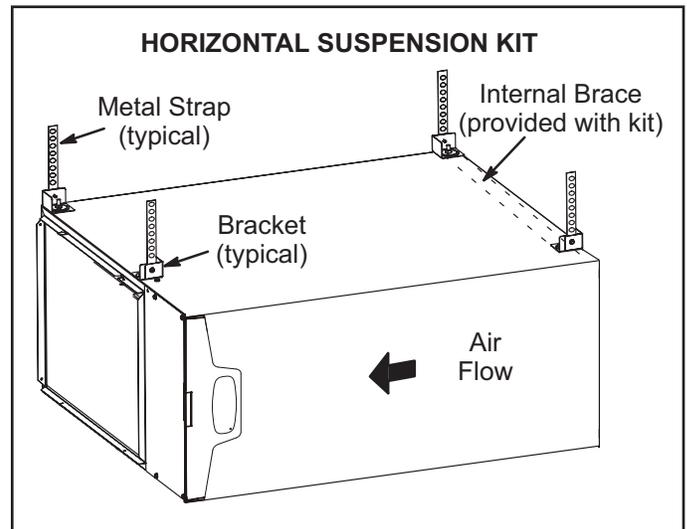

**FIGURE 17**
The ML193UHE furnace can be installed in horizontal applications with either right- or left-hand air discharge. Refer to "FIGURE 17" for clearances in horizontal applications.
- 1 - Select location for unit keeping in mind service and other necessary clearances. See "FIGURE 17".